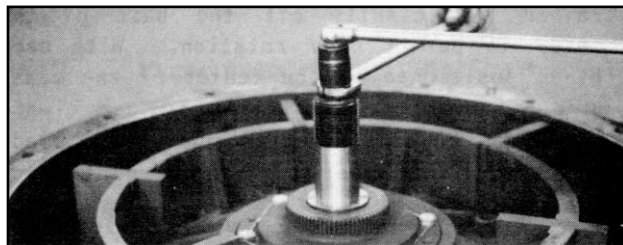

Figure 18
1. Using two wrenches, loosen the adjusting screw lock nut (upper nut) from the adjusting nut (lower nut), Figure 18. Then, turning adjusting nut counter-clockwise, lower the complete rotor assembly until it rests on the base of the inner unit.